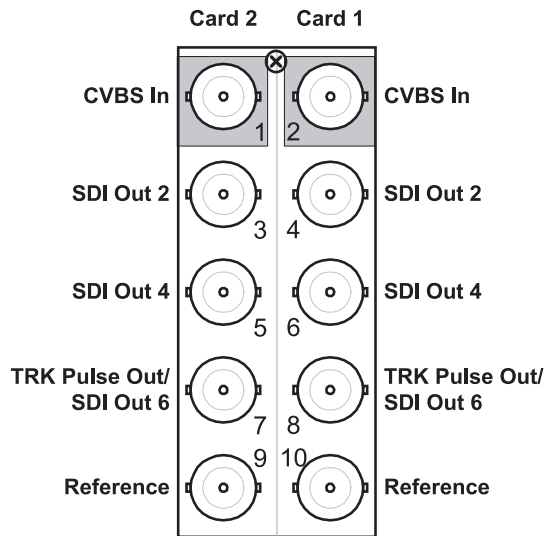

Figure 2.4 Cable Connections for the R2S-8732 Rear Module
- **R2S-8732** Split Rear Module — Each card occupies one slot and provides two or three outputs. Note that each rear module provides connections for two cards. Cable your ADC-8732B according to **Figure 2.4**.
2. Connect downstream SD-SDI devices to BNCs 2 through 6, 8, and 10 (SD-SDI Out). If you are using the R2S-8732 Split Rear Module, connect to the required BNCs as indicated in **Figure 2.4**.